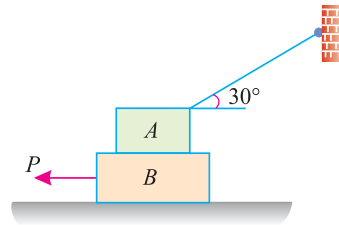

Fig. 8.4.
**Example 8.3.** Two blocks A and B of weights 1 kN and 2 kN respectively are in equilibrium position as shown in Fig. 8.4.